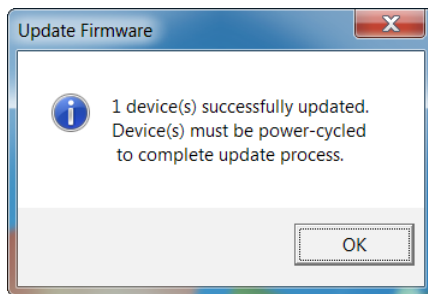

Figure 20: Update Firmware
9. Once the firmware update is complete, click **OK (Figure 20)**.